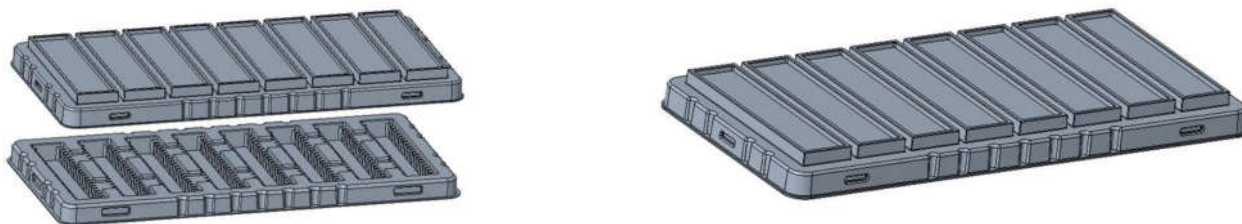

Figure 6-2 Top Plate as a protection cover
- ◆ Sealed packaging is equipped with humidity indicator card, as shown in Figure 6-2.